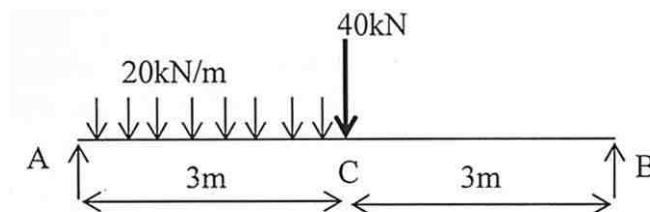

Fig. 5
6. (a) Draw SFD and BMD for a beam shown in figure 5. [6]